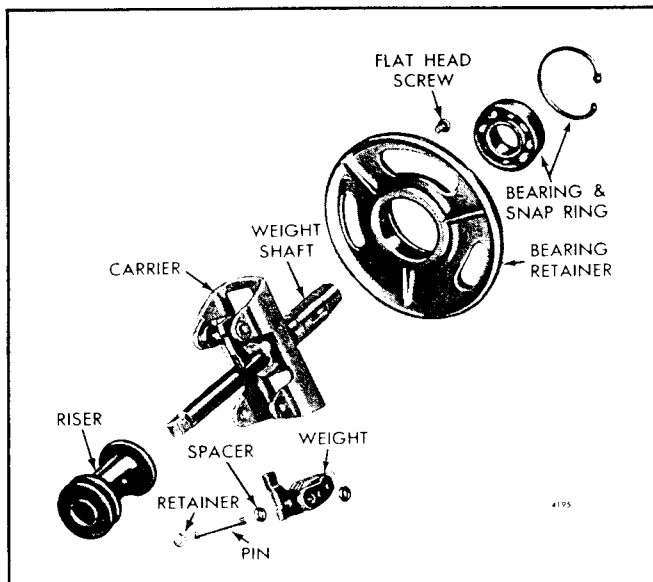

Fig. 7 - Governor Weight Details and Relative Location of Parts
1. Press the bearing retainer (Fig. 7) from the weight shaft.
2. Press the bearing (Fig. 7) in the retainer (press on the outer race). Then install the snap ring, with the flat side of the ring facing the bearing.